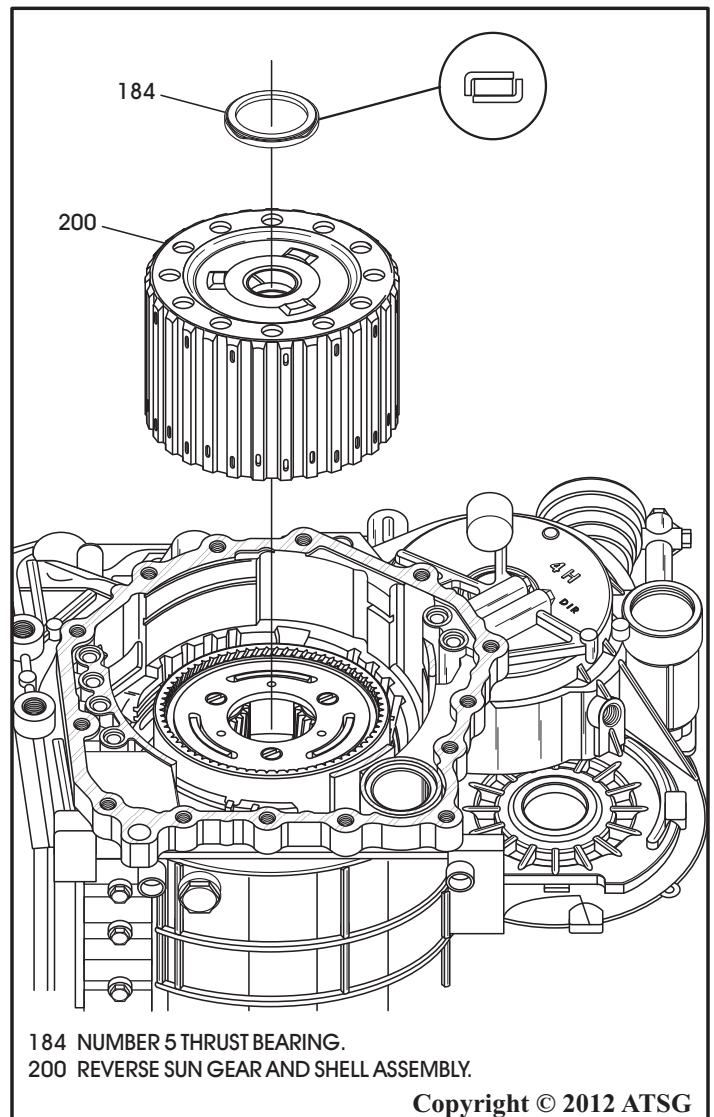

Figure 257
31. Install the reverse sun gear and shell assembly, as shown in Figure 257.
32. Install the number 5 thrust bearing in direction shown in Figure 257, and retain with a small amount of Trans-Jel®.